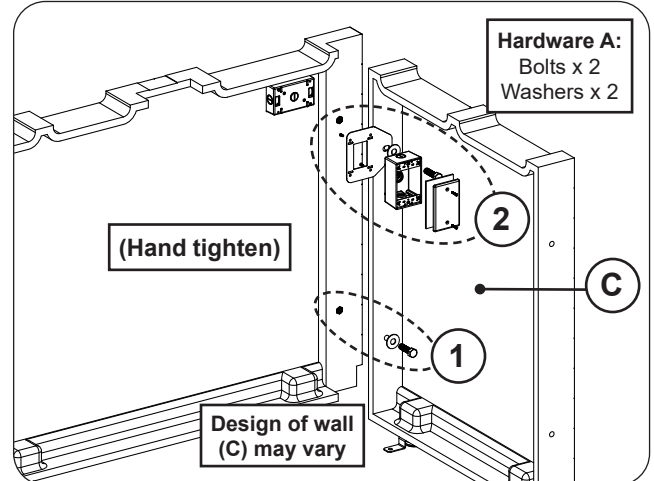
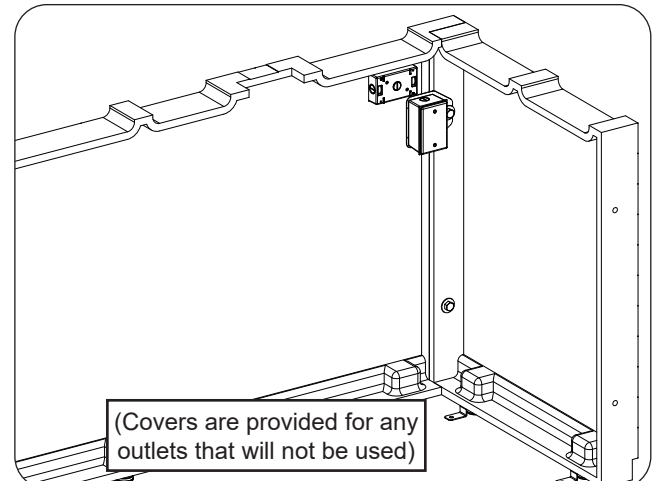

Fig. 8-3 Assemble right side wall and outlet box
Fig. 8-4 Right side wall and outlet box installed
1. Orient the right side wall (C) and repeat the hardware installation process (hardware kit A) for the bottom hardware first. Ensure the top pilot holes are also aligned. Hand tighten only. See Fig. 8-3, step 1.
An outlet box assembly is provided and requires installation. Assemble the box as shown using screwdrivers, then repeat the hardware installation process to secure both the top of the right wall and the outlet box in place. Hand tighten only. See Fig. 8-3, step 2 and Fig. 8-4.